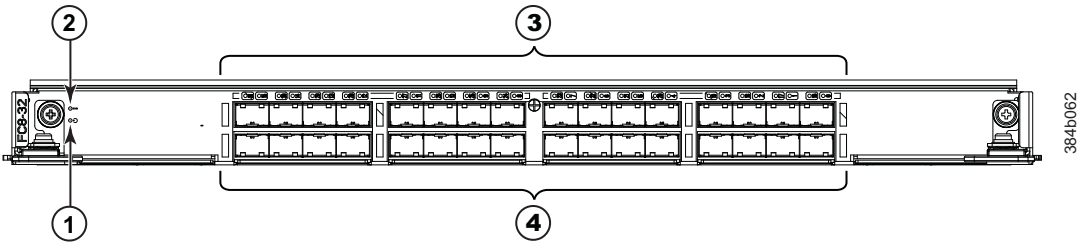

Figure 55. FC8-32 port blade
- Figure 55 shows an FC8-32 port blade